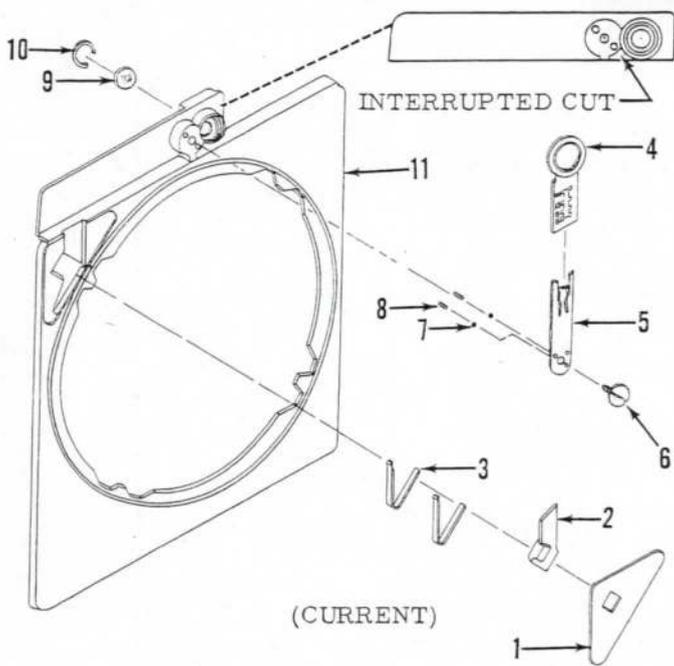
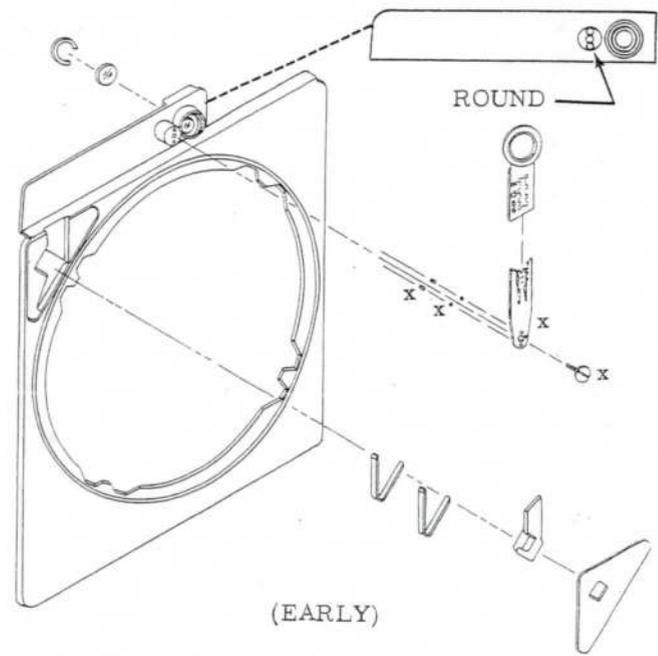

Figure 19A. STATIONARY FRAME COMPLETE
Figure 19B. STATIONARY FRAME COMPLETE
1. Remove two retainers (1) and four retainers (2) secured by eight machine screws (3). Remove flat washers (4 and 5), if used, and remove stationary frame complete (6). If disassembly of stationary frame complete is necessary, refer to figure 19A.
**NOTE:** A change has been made on the stationary frame as illustrated in figures 19A and 19B. Disassembly and reassembly procedures remain the same. Items marked x on figure 19B are not interchangeable with corresponding items in figure 19A. When ordering replacement parts for current or early stationary frame, refer to Parts List 6A or 6B.
#### P. STATIONARY FRAME COMPLETE - DISASSEMBLY (figure 19A)
#### Q. STATIONARY FRAME COMPLETE - REASSEMBLY (figure 19A)